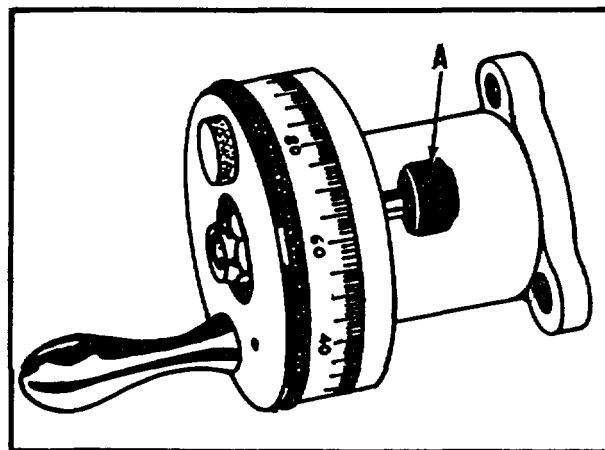

Fig. 10-A
11" Lathes are equipped with a built in thread stop, as shown in Fig. 10-A. This photograph shows the bottom side view of the stop for clarity.
When cutting threads the compound slide is usually set at 290, and the proper tool holder and thread cutting tool is adjusted in relation to the stock. Push in the knurled knob (A) Fig. 10-A to engage the thread stop and turn the cross slide handwheel clockwise until it engages the stop. Move the compound slide in until the cutting tool just touches the work. Back out the cross slide and move the carriage until the tool is away from the work and clear of the end. Then move the cross slide in against the stop and proceed cutting by engaging the half-nuts.